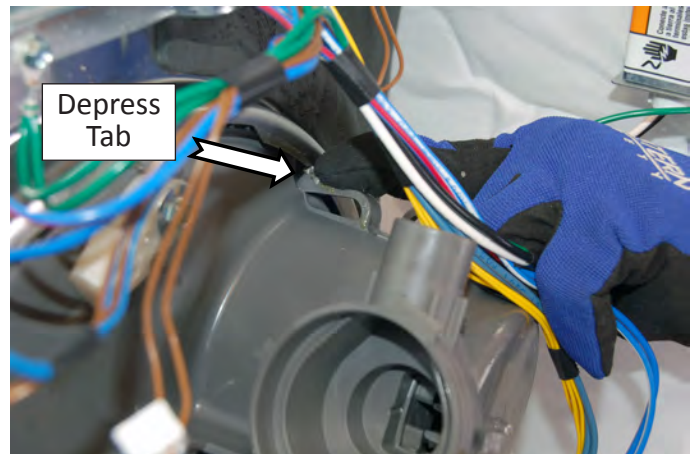

Figure 4
5. Depress sump release tab located in front of sump. Push upward on sump, from the bottom, to detach from tub. See Figure 4.